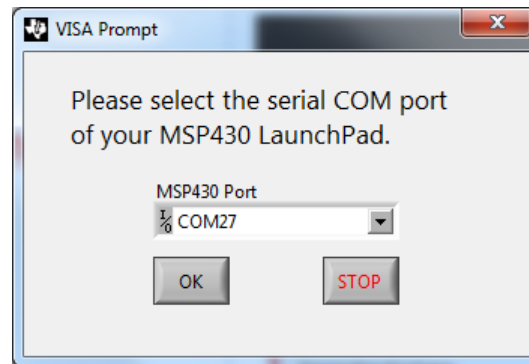

Figure 5. Select COM port and Click OK
3. Select COM Port and OK (see Figure 5).